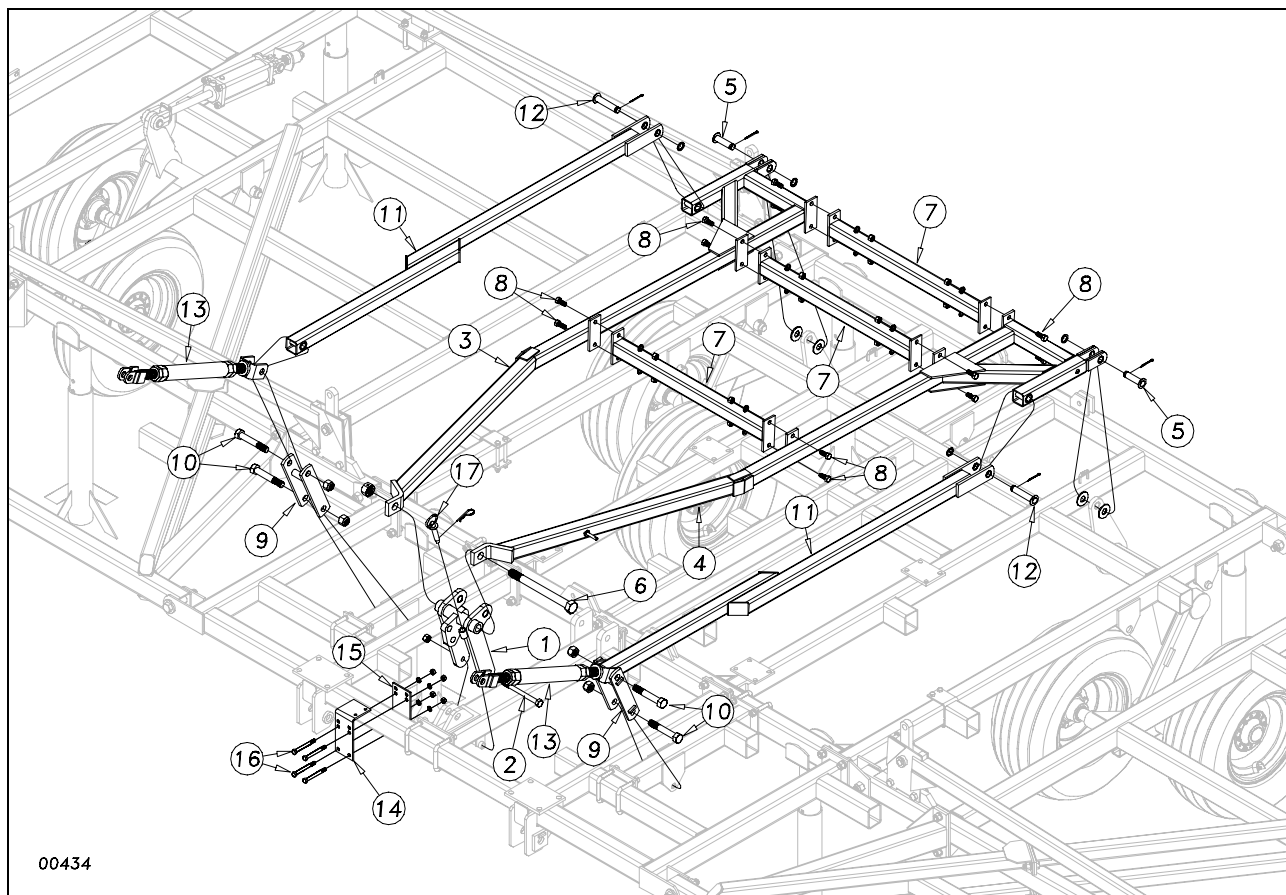

Figure 4
Slide the H-bracket (1) down over the cylinder mount tube as shown in Figure 4. Bolt in place with a 3/4 x 8 bolt (2) and lock nut. Draw this nut up but **do not torque**, as this part must pivot.